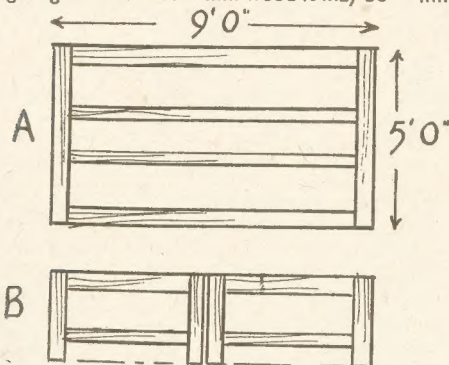

Fig. 1—The framework for the plywood
A framework on which the plywood is to be mounted must first be constructed. Fig. 1 (A) shows this, and as will be seen in the diagram, it consists of two long sides, two ends, and two long rails between. The latter can be cut from $1\frac{1}{2}$ in. wide stuff, the remainder from 2 in. stuff. All should be $\frac{3}{4}$ in. thick. To those who do not mind a little extra trouble, the lot could be sawn off a plank of the stated thickness. See the edges are planed quite square with the face sides.